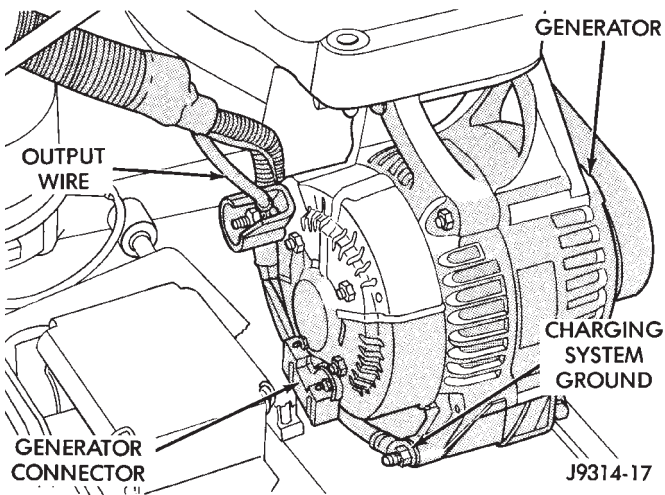

Fig. 9 Generator Connector and Output Wire Connections—Typical
(6) Verify that generator output wire, generator connector and ground wire are firmly connected to the generator (Fig. 9).